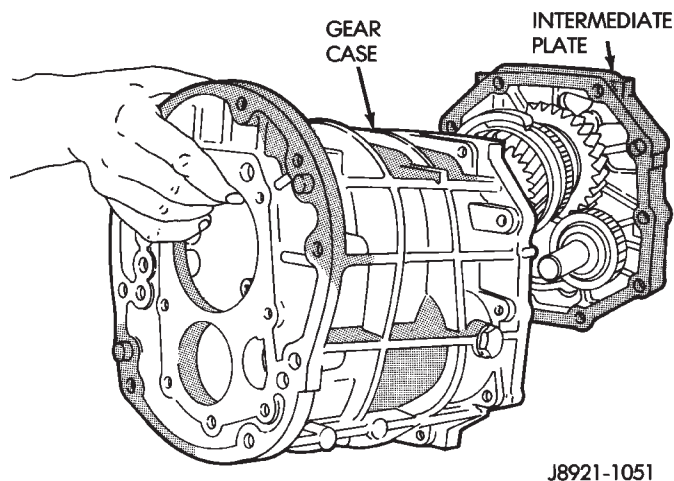

Fig. 37 Install Transmission Gear Case to the Intermediate Plate
(3) Align geartrain and shift rails with mating holes in transmission case and install transmission case to the intermediate plate (Fig. 37). Verify that the transmission case is seated on the intermediate plate.